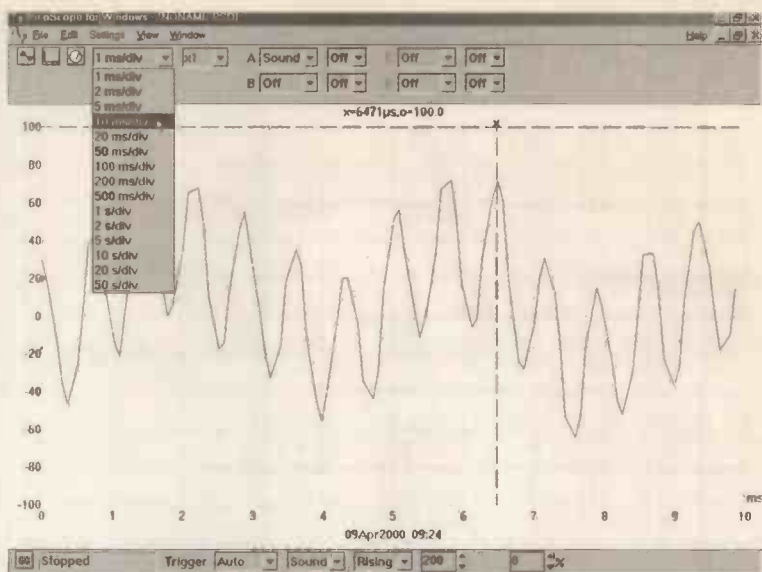

Fig.3. Selecting the *PicoScope* option lets you view audio waveforms or show temperature data.
*PicoScope* is therefore used for such things as viewing audio waveforms (Fig.3) or showing temperature data from experiments that produce rapid changes in temperature. *PicoLog* is used for an application such as logging weather data over a period of days.
Starting with *PicoScope*, this is very similar to the software supplied with the Pico range of storage oscilloscope interfaces, but some concessions have to be made to the slower sampling rate of DrDAQ. Accordingly, the fastest sweep rate is 1ms per division, but at the other end of the range the slowest rate is a generous 50s per division. A panel having a pop-down menu enables sweep rates to be selected, and the times are in the usual 1-2-5-10 progression, as can be seen in Fig.3.